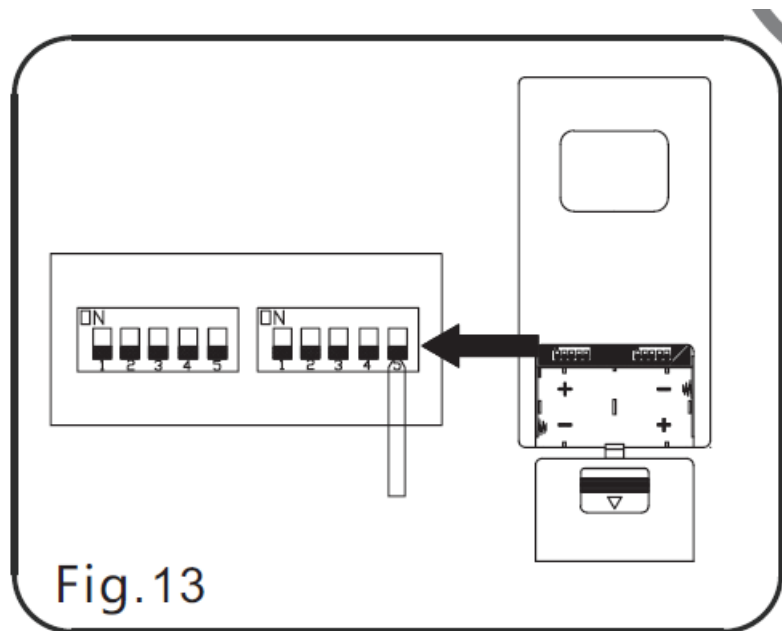

Fig.13
outlet box to the WHITE wire marked “AC in N” from the receiver. Connect the BLACK wire (Hot) from the outlet box to the BLACK wire marked “AC in L” from the receiver. Secure all wire connections with the plastic wire nuts provided. (Fig. 13)
- Step 4. If your outlet box has a GROUND wire (Green or Bare Copper) connect this wire to the Hanger Ball and Hanger Bracket Ground wires. If your outlet box does not have a Ground Wire, then connect the Hanger Ball and Hanger Bracket Ground Wires together. Secure wire connection with the plastic wire nut provided. (Fig. 13)